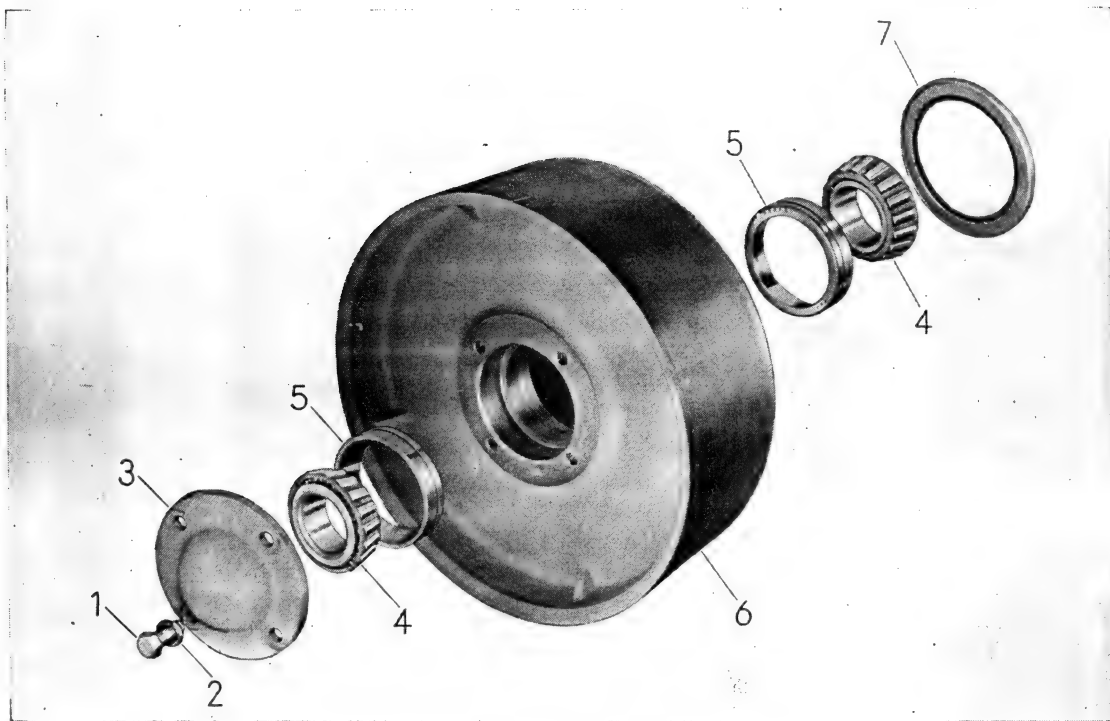

Figure 25 — Rear Steering Wheels and Tires
**REAR STEERING WHEELS AND TIRES (Fig. 25)***LOCATION*